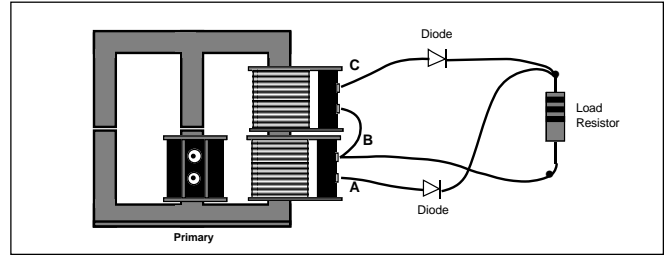

Figure 6
14. Now we will make the difference in waveforms useful to us. Connect two diodes into your apparatus as shown in Figure 6. How does the waveform across the load resistance look? How does it differ from the waveforms you have seen in previous steps? Is this still alternating current, or is it directional (direct) current?